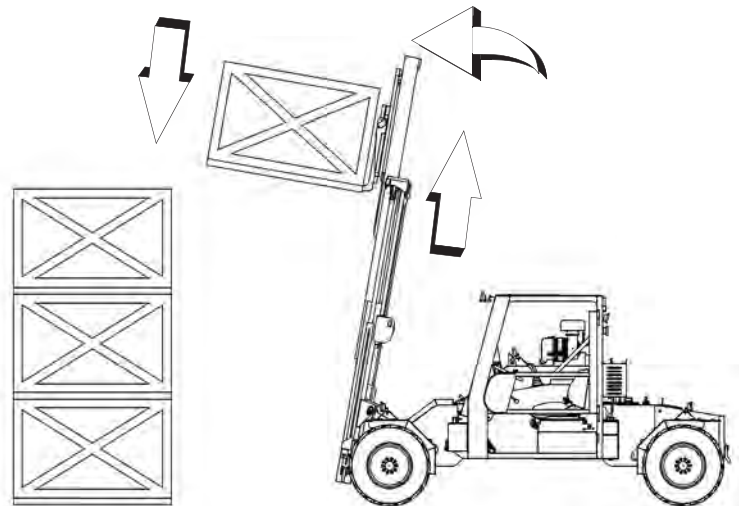

Fig 8.
2. Raise the load high enough to clear the stack or platform. Align the forks to the correct angle and height for load placement. Move forward slowly making adjustments as needed, until the load is properly aligned. Lower the load into a stable position. *Fig 8.*